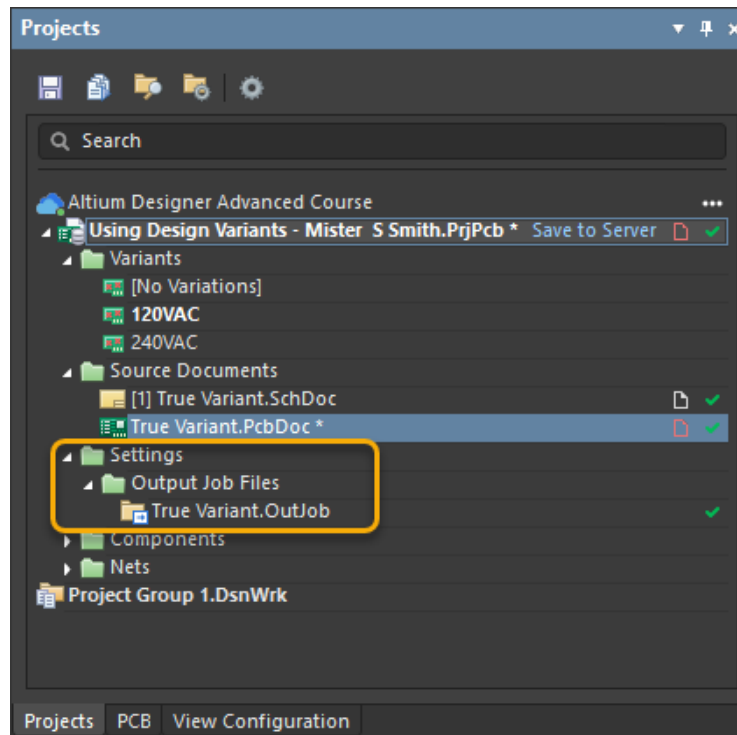

Figure 9. Output Job file from the Projects panel
35. From the *Projects* panel, open the *True Variant.OutJob* file that is found in the *Settings* folder, as shown in Figure 9.